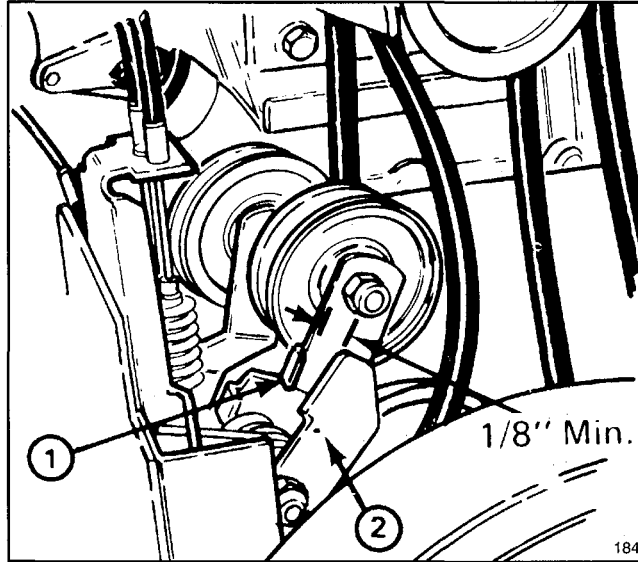

Figure 31
8. Check impeller brake arm clearance by releasing the auger/impeller lever. With the lever released, there should be more than 1/8" clearance between tab on impeller idler arm and brake arm (Fig. 31). **If there is less than 1/8" clearance, belt must be replaced.**